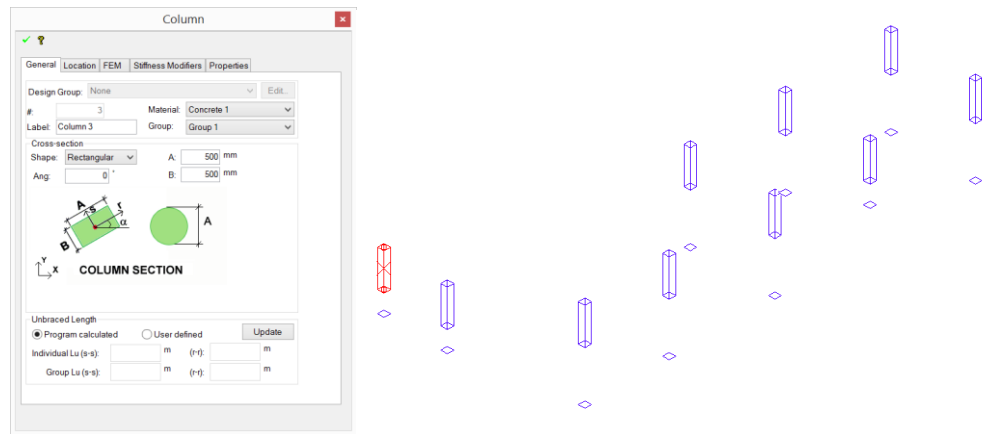

Figure 6.4-5 - Top-Front-Right View with Transformed Column and Column Dialog
- Change the view to an Isometric View by selecting **Top-Front-Right View** from **Home | Camera/Zoom**. You will notice all polygons are changed to a Column entity in the drawing; you may double click on any column to change or view its General Properties, Location, FEM Properties and CAD properties (as shown in **Figure 6.4-5**). Notice that when in ADAPT-MAT mode all columns will be resting on slab, i.e. modeled as **Upper Column** and placed under **Current_Plane_Column** layer.